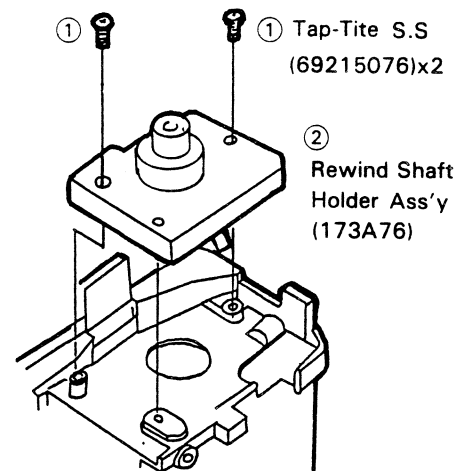

Fig. 27
(2) Remove the parts shown in Fig. 27 in the numerical order